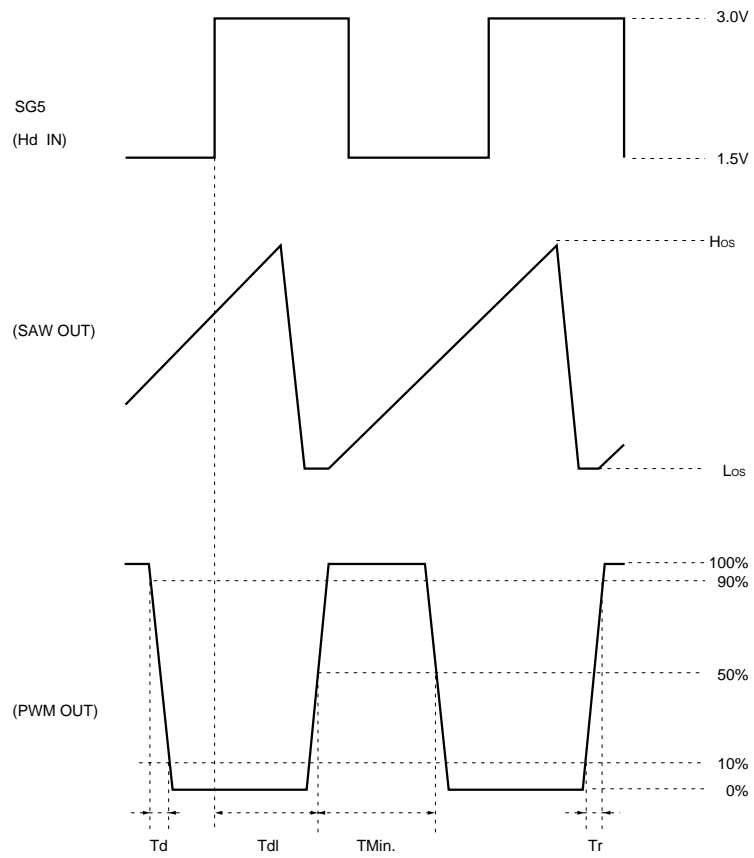

Fig.14
*¹ The pin 12 output amplitude should be set to V_O. AV = 20log (V_O / V_{IN}) [dB]*² For the method by which the output waveform is determined, refer to Fig. 14.*³ An input frequency should be measured that produces a level of -1dB for a high output level (H_{OS}) for the sawtooth waveform at an input frequency of 30kHz.*⁴ The temperature is measured at the point where the temperature is raised to above T_a = 75°C and the output level of pin 9 is high.